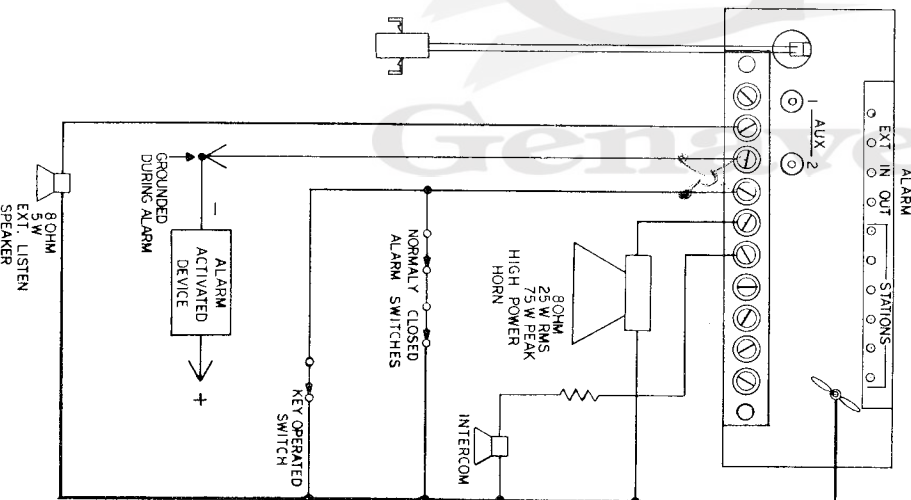

Figure 4
- 4 Connect one lead to the Station 1 terminal on the rear of the unit. The other lead is connected to the chassis ground thumbscrew located above the station terminals (See Figure 4).
The ALARM OUT terminal on the rear panel connects to the relay within the unit and provides control of a remote alarm indicating device such as a lamp. When the alarm is activated the relay within the unit will connect the ALARM OUT terminal to ground (See Figure 4). The relay contacts have a rating of 14 VDC at 2 amperes.